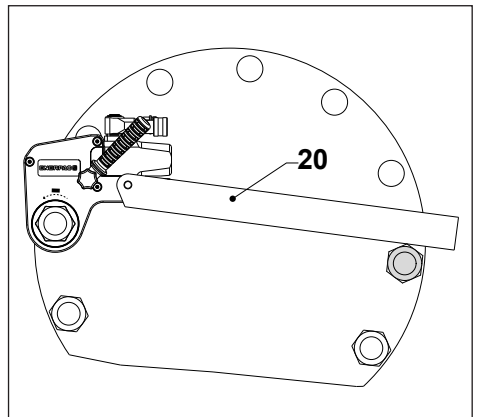
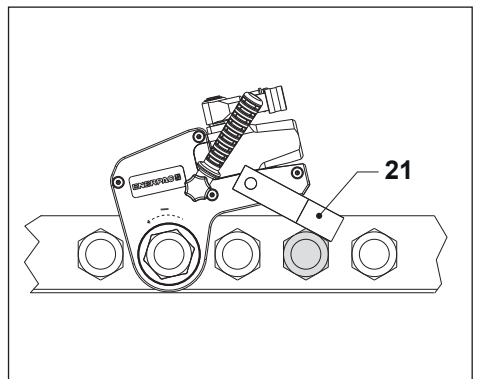

Fig. 13
Fig. 14
4.3.4 Using an Extended Reaction Arm (Fig. 13)
- Position the WTE Series extended reaction arm (20) against a suitable reaction point. The reaction point will counteract the force caused by operating the tool.
4.3.5 Using a Reaction Paddle (Fig. 14)
- Position the WRP Series reaction paddle (21) against a suitable reaction point. The reaction point will counteract the force caused by operating the tool.
Refer to Figs. 14 and 17 for swivel components.